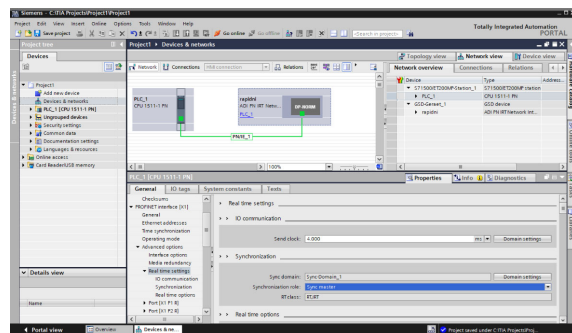

Figure 91. Synchronization Role PLC
4. In the **Properties** window, select **PROFINET interface [X1]**, **Advanced options**, **Real time settings**, and **Synchronization**, then set the **Synchronization role** dropdown menu to **Sync master** (see Figure 91).